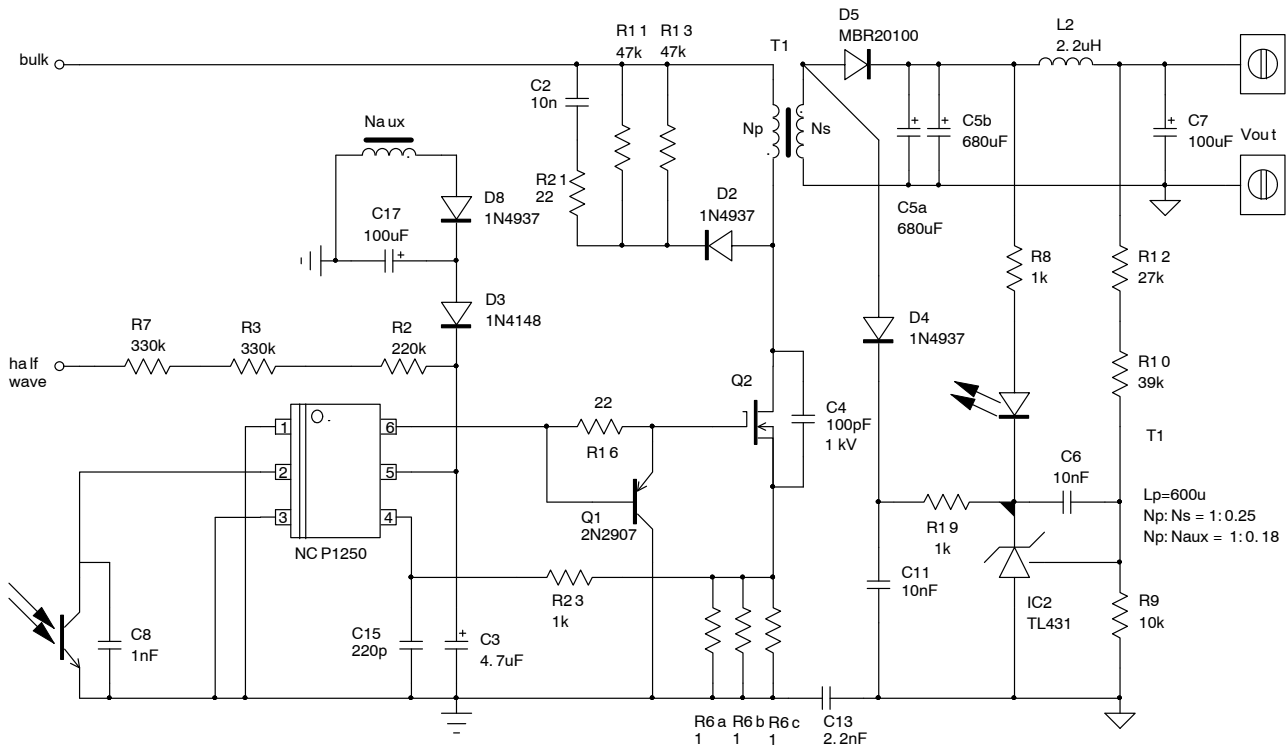
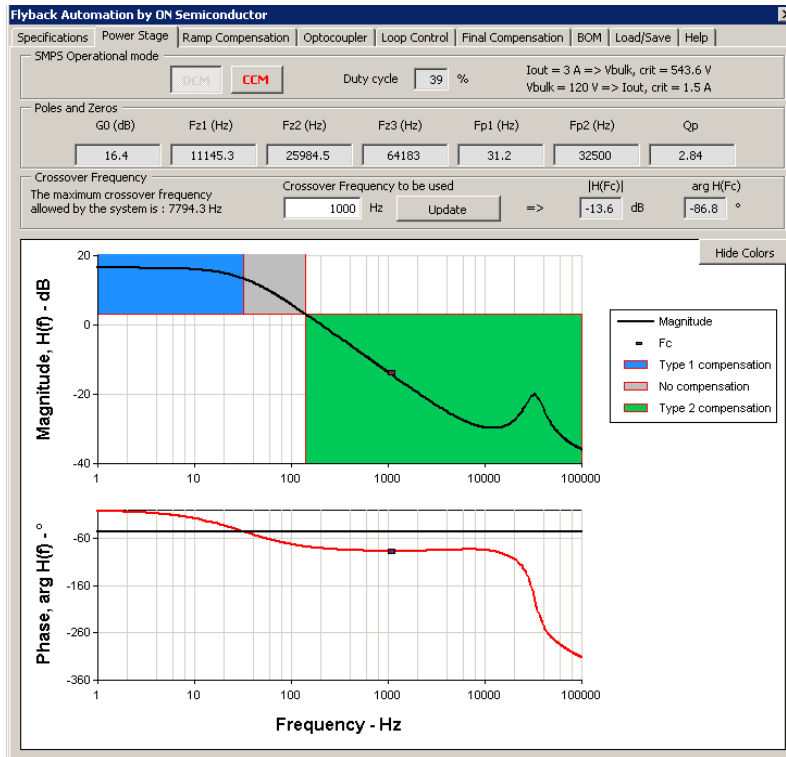

Figure 1. The 60 W Adapter Uses a Few Components Around the NCP1250 While Offering Excellent Performance
Figure 6. The Power Stage Transfer Function is Now Displayed and Offers Several Crossover Frequency Choices
The NCP1250 includes everything needed to build a compact and robust ac-dc converter including Over Voltage Protection (OVP), Over Temperature Protection (OTP) and finally, input line Over Power Protection (OPP). Operating from a 65 kHz switching frequency, the adapter presented in Figure 1 delivers 19 V with a nominal output current capability of 3 A continuous. Please note the absence of the front-end rectifying section, purposely ignored for the sake of simplicity.
All fields are populated with the required numbers and the ok button can now be pressed. The next panel appears in Figure 6. This panel displays the small-signal response of the flyback converter power stage,  $H(s)$ . The position of the poles and zeros attached to this stage appear in the top of the window. The converter operates in the Continuous Conduction Mode (CCM) and exhibits a duty-ratio of 39%. As you can see, there are several color zones in the panel. These zones highlight the limits brought by the TL431-based compensation circuit. As indicated in Ref. [1], the system features a so-called fast lane that prevents the system from attenuating rather than amplifying. We can show that at high frequencies, when capacitor  $C_6$  of Figure 1 is a short-circuit, the transmission gain becomes:
Where CTR is the optocoupler Current Transfer Ratio,  $R_{LED,max}$  is the maximum LED series resistor that can be used without affecting the TL431 bias point ( $R_8$  in Figure 1) and  $R_{pullup}$  is the internal pull-up resistor inside the NCP1250. The software computes  $R_{LED,max}$  internally and uses the CTR value supplied in the optocoupler tab. In this case, it is found that the minimum attenuation is  $\approx -3$  dB. Should ask for a 10 dB attenuation, the TL431 could simply not do it as it would require a LED resistor greater than  $R_{LED,max}$ . Therefore, any crossover point that requires attenuation beyond 3 dB is rejected as the system cannot do
Now that we have a damped power stage, let's see the compensation strategy the software has adopted. Back to Figure 6, the selected 1 kHz crossover frequency requires an upper shift of +13.6 dB.  $G(s)$  will thus be shaped to provide a 13.6 dB gain at 1 kHz. Regarding the phase, the Bode plot of  $H(s)$  shows a phase lag of  $-88^\circ$  at 1 kHz. Looking for a  $60^\circ$  phase margin (PM), the software will calculate the necessary boost in phase  $G(s)$  must provide at 1 kHz. It is computed the following way:
The 1 mA bias current for the TL431 is made by either paralleling a 1 k $\Omega$  resistor with the optocoupler LED or by implementing the ON Semiconductor proprietary technique of bias disconnection. As shown in the upper right corner of Figure 1, the technique involves D4, C11 and R19. When the power supply is loaded, the voltage across C11 is almost that of the output, fully biasing the TL431 via R19. In light load conditions or in lack of load, C11 being weak, the voltage across its terminals simply collapses and the TL431 bias fades away. In this mode, with a 19 V output, you save 20 mW on the secondary, reflected as a power gain around